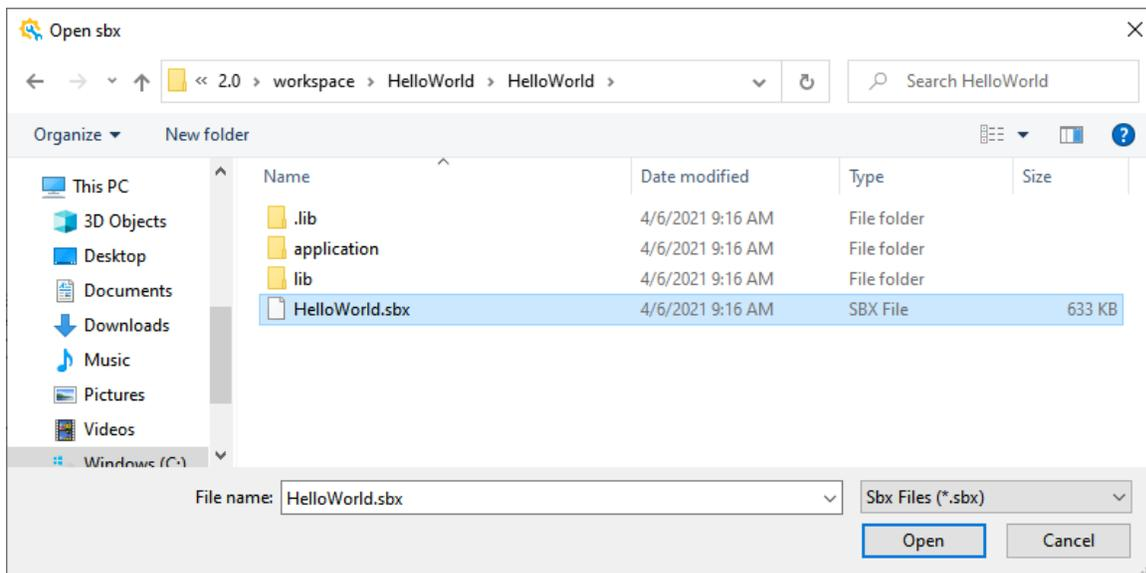

Figure 2.13. Open HelloWorld Project
2. Browse to find the default project workspace folder or your own project workspace folder. Choose the sbx file, such as HelloWorld.sbx (Figure 2.13).